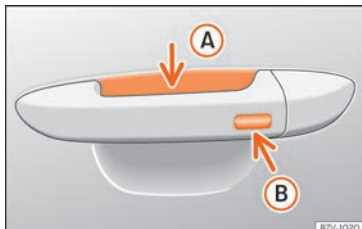

Fig. 142 Driver door lever: sensor surfaces.
- Press and hold the locking sensor surface **» Fig. 142 B** on the door handle to close the sunroof. If you release the sensor surface, the closing movement stops.